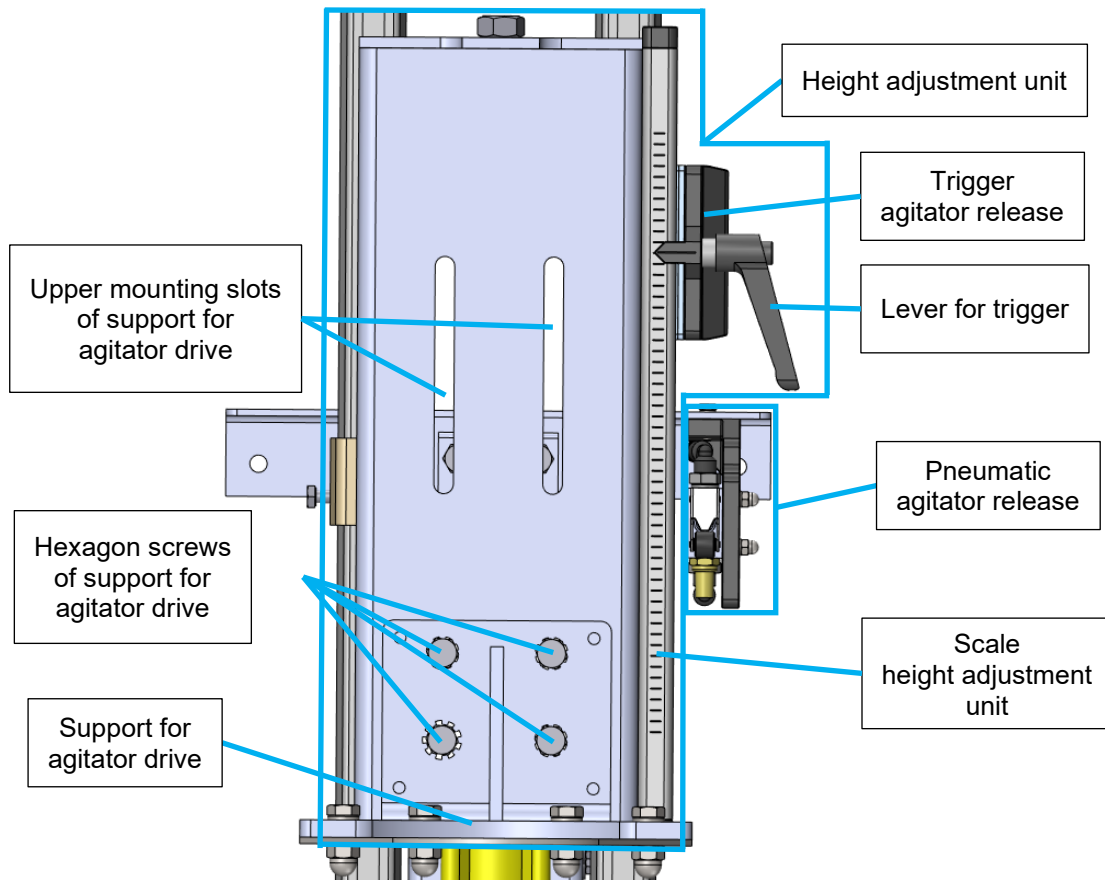
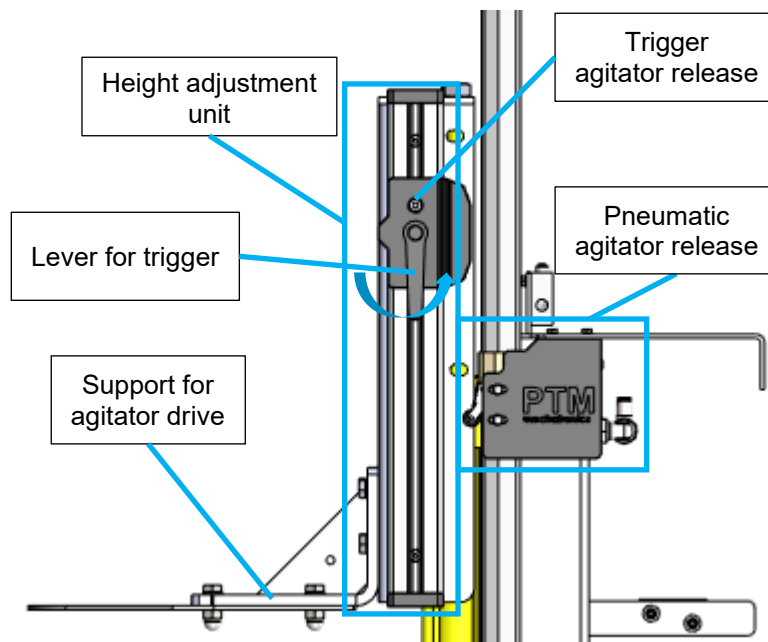

Figure 12: Height adjustment unit front view
Figure 13: Height adjustment unit side view
2. Set the trigger for the agitator release to the lowest point on the scale (Figure 12; Figure 13).
- a. To do this, turn the lever of the trigger (Figure 12; Figure 13) counterclockwise (in the direction of the arrow in Figure 13).
- b. Slide the trigger (Figure 12; Figure 13) along the scale until it reaches the bottom stop.
- c. Close the lever of the trigger again (Figure 12; Figure 13, opposite the direction of the arrow) and ensure that the lever is securely closed.
3. Now, lower the station until the trigger activates the agitator release (Figure 12; Figure 13).
- i. Loosen the four hexagon screws while simultaneously countering the nuts on the back of the bracket (Figure 12).
- ii. Slide the agitator drive support upward. If the available distance of the lower mounting slots (not shown) is insufficient, mount the bracket in the upper mounting slots (Figure 12).
- i. Either you move the trigger for the agitator release the corresponding distance upward (Figure 12; Figure 13) ...
- ii. ... or you move the agitator drive support downward in the upper/lower mounting slots (if the bracket is not already mounted at the lowest point of the lower mounting slots) (Figure 12).
5. Once you have completed the adjustments for your longest agitator shaft and considered **points 4.a.i and 4.a.ii** (see above), mark the position of the trigger on the scale as well as the position of the agitator drive support (Figure 12; Figure 13).